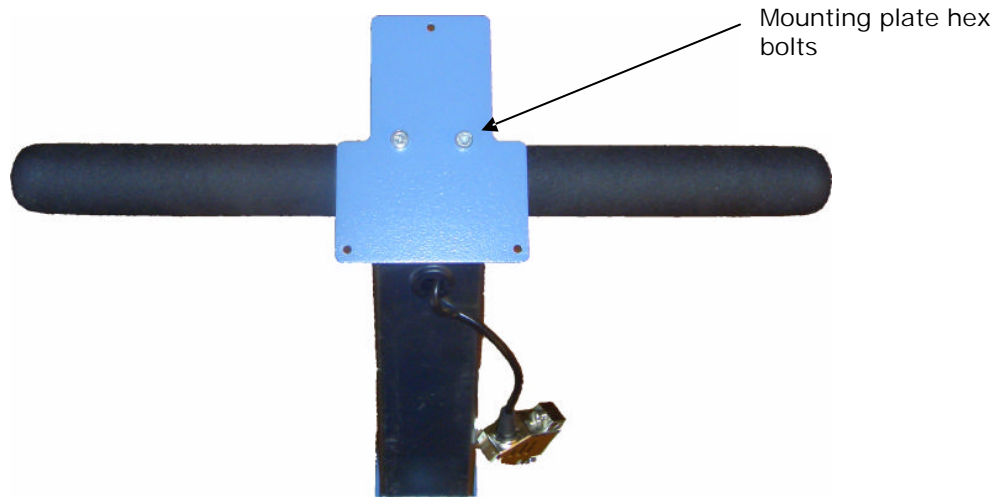

Figure 9 Controller Mounting Plate
1. Fit the Controller mounting plate to the safety handle assembly using the hex bolts supplied as shown in Figure 9.